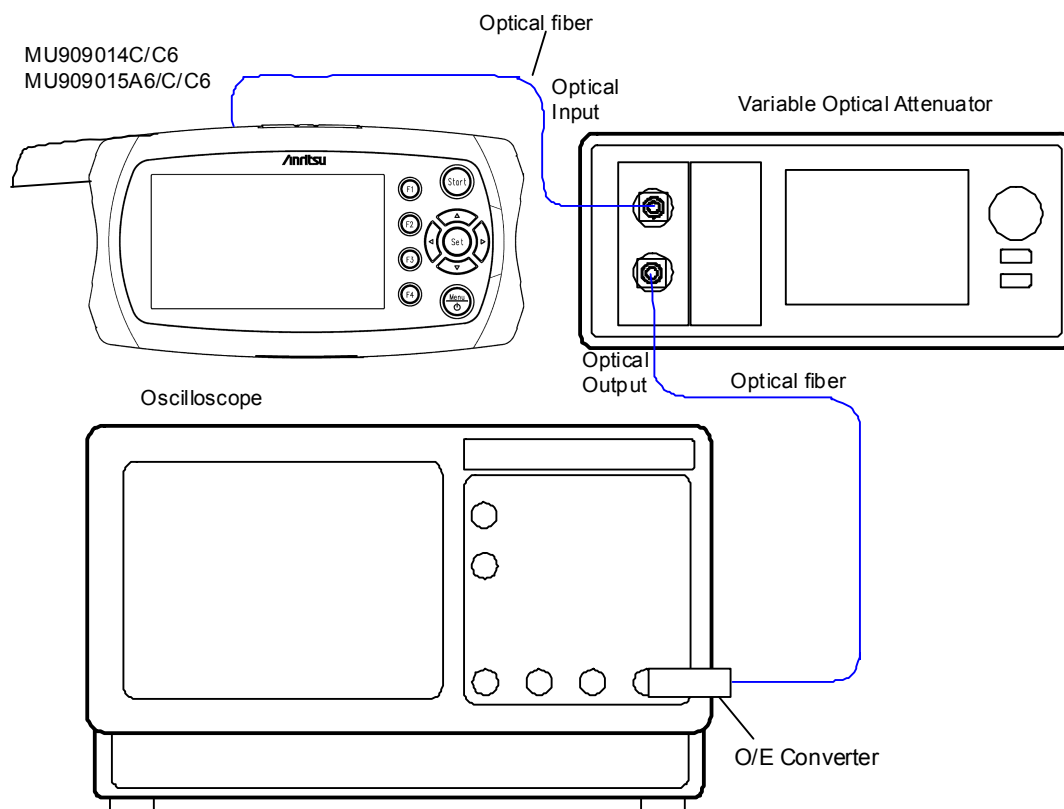

Figure 11.1.3-1 Pulse Width Test - Connection Diagram
1. Connect the main frame and measuring instruments as shown in Figure 11.1.3-1.